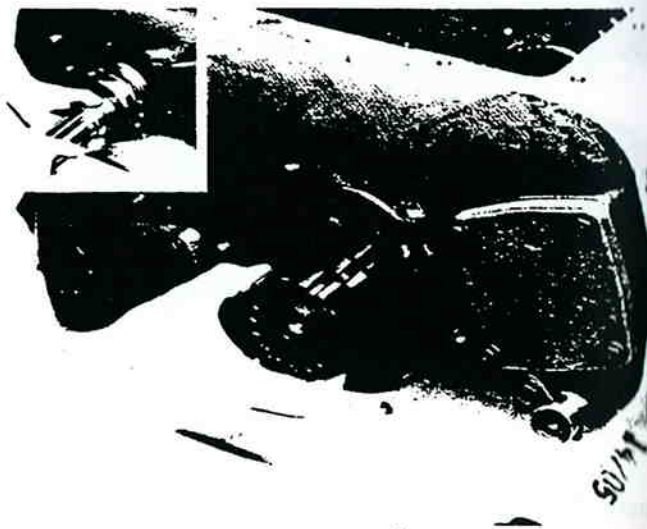

Figure 13-149. Removing Output Shaft and Coupling Gear.
1. Remove the temporarily installed output shaft assembly from case bore and coupling gear from rear of mainshaft (figure 13-149).